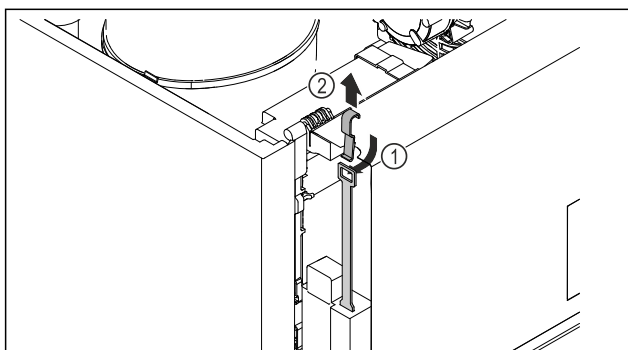

Fig. 248
- Insert the emergency release key Fig. 248 (1) from above, hook it onto the lock and pull it upwards Fig. 248 (2).